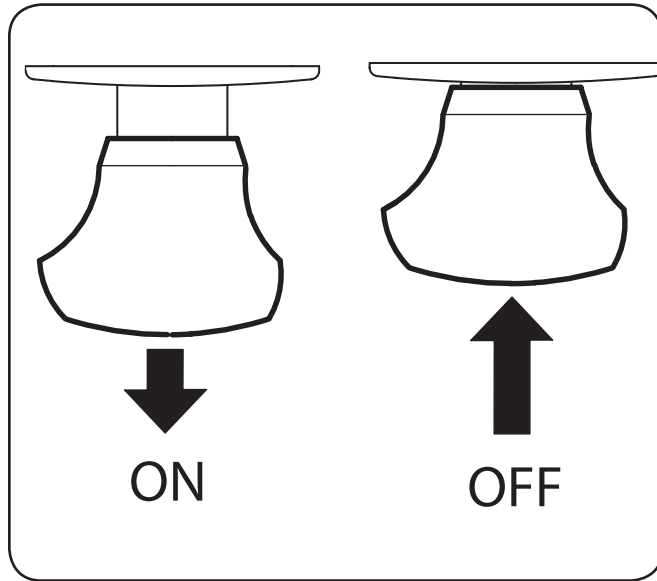

Figure 5-3
2. Pull the PTO/Blade Engage knob outward into the engaged (ON) position. See Figure 5-3.